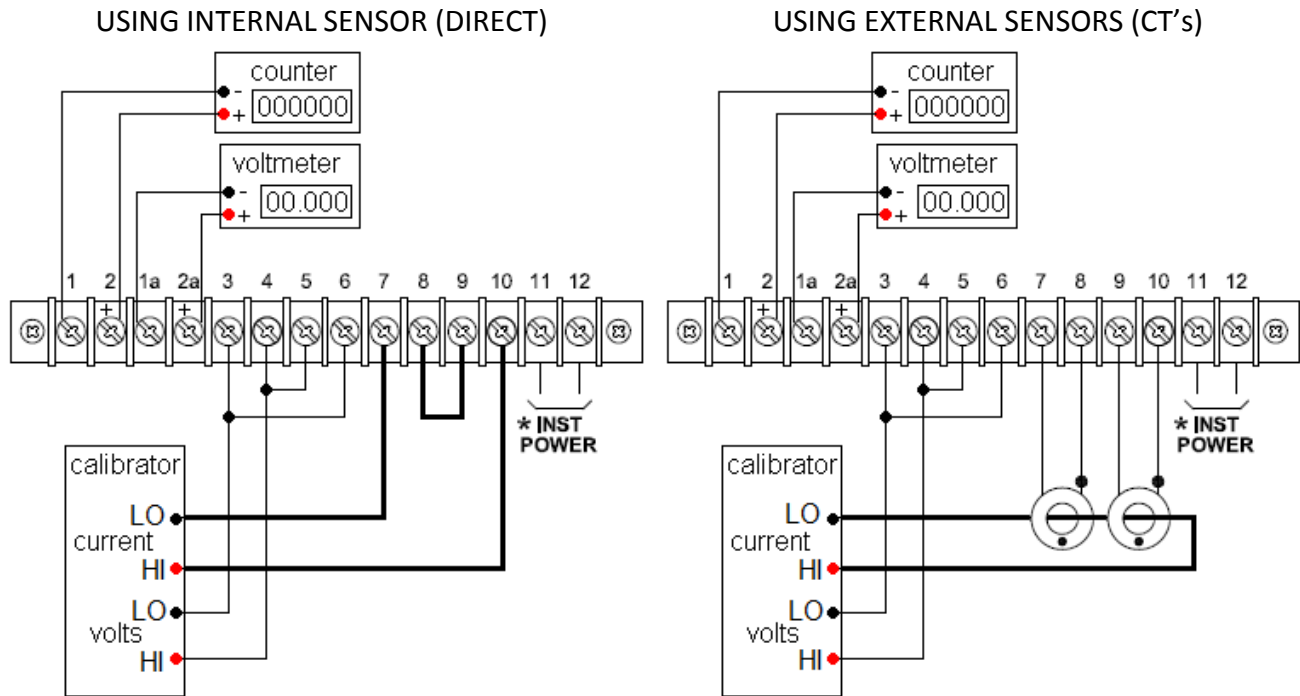

Fig. 6
Apply 480V input to terminals 3(6) & 4(5) as shown in Fig. 6 (from calibrator).